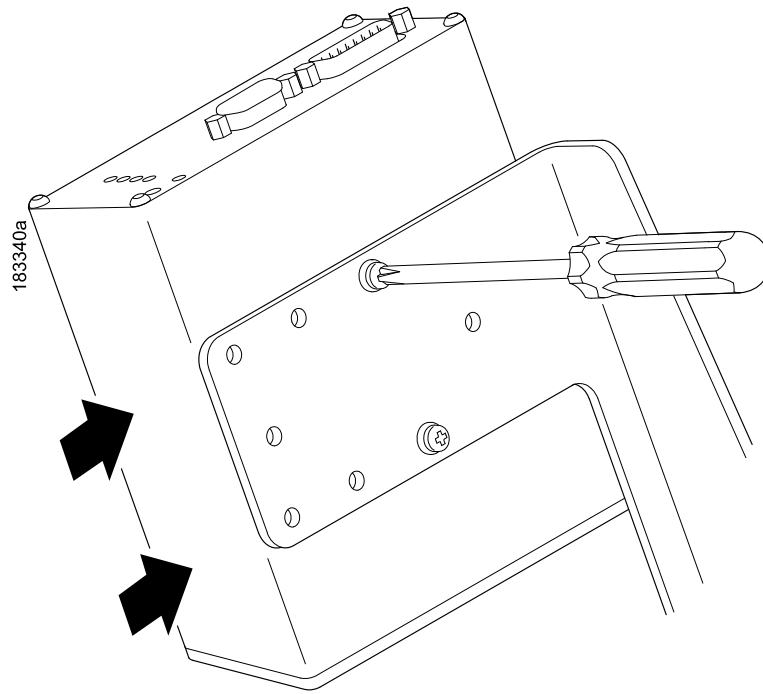

Figure 13 Positioning the Validator on the Bracket
1. Apply even pressure to the side of the validator as you tighten the screws on the bracket as shown in Figure 13.